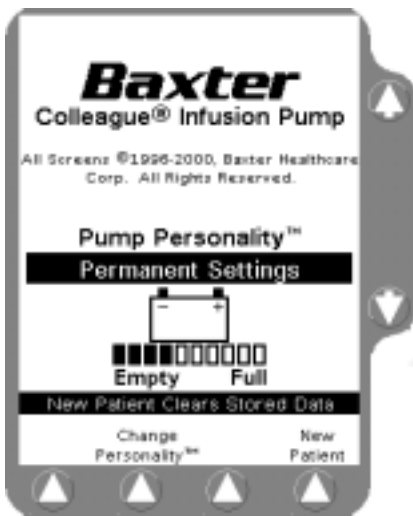
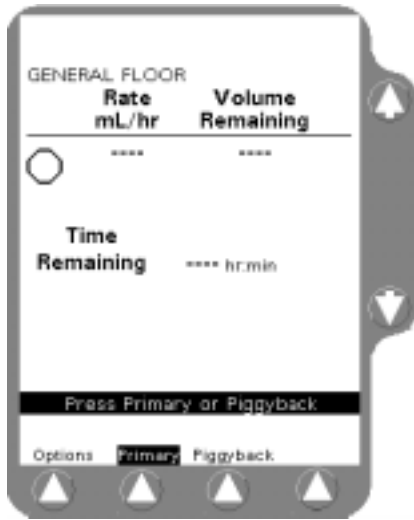

Figure 3-9 Power On Screen After Self-Test
Figure 3-10 Main Display After Self-Test
3. On completion of all self-diagnostic tests, the Power On screen changes to the display shown in Figure 3-9, Power On Screen After Self-Test.
- From the Power On Screen After Self-Test (Figure 3-9), press the **Main Display** key (top right of front panel) to view the Main Display screen (Figure 3-10).